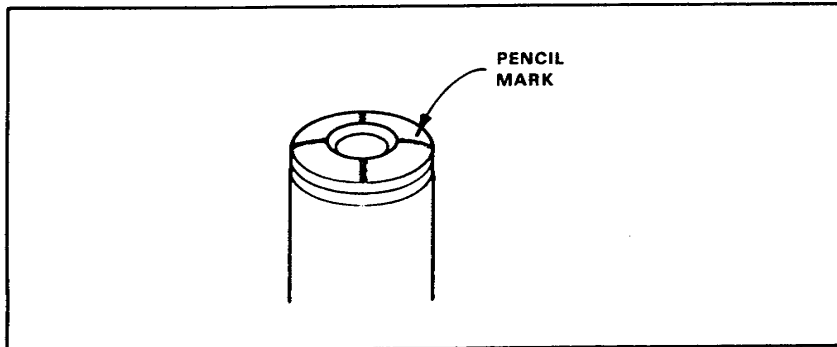

Figure 4 - Penciled X on the probe surface
- A. Lightly pencil an "X" across the probe's gold sensing surface. (See Figure 4.)